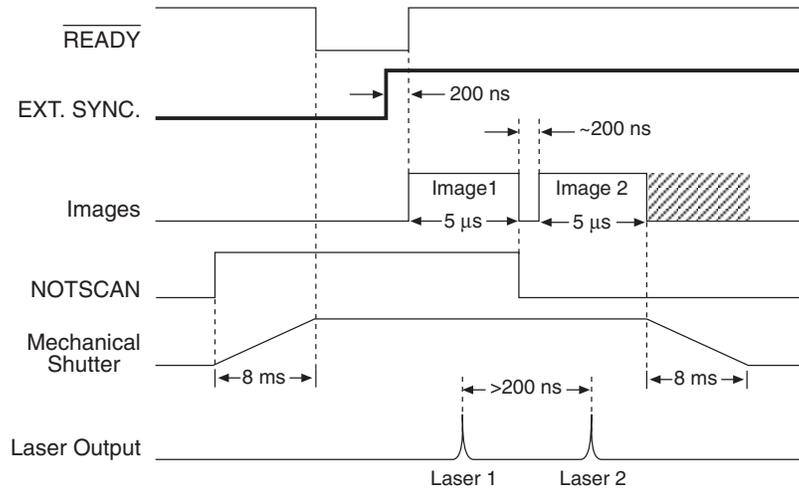

Figure 39. Timing Diagram for Typical IEC Measurement
In this mode, a single external trigger applied to **Ext Sync** initiates two successive image acquisitions of equal duration. The Exposure Time is set in software (Experiment Setup **Main** tab page and elsewhere) the same as in a standard system and can be as short as  $1\ \mu\text{s}$ . On initiating the acquisition (**ACQ** button or **Acquire** on the Acquisition menu), the initialization routine runs and the shutter opens. When the shutter is completely open, **READY** drops low and remains in that state until an external trigger is applied to **Ext Sync**. Continuous cleaning takes place until the trigger is applied. When the trigger is sensed, the first exposure begins and the first image is captured (shifted under the masked columns and held there). The exposure for capture of the second image begins. This sequence is illustrated in Figure 39.
**Example 1:** An external trigger initiates the imaging process. **READY** goes low when the system is ready. Once **READY** is low, an external trigger applied to **Ext Sync** initiates the double image capture. Figure 39 illustrates the timing for a typical IEC experiment with an exposure time of  $5\ \mu\text{s}$ .